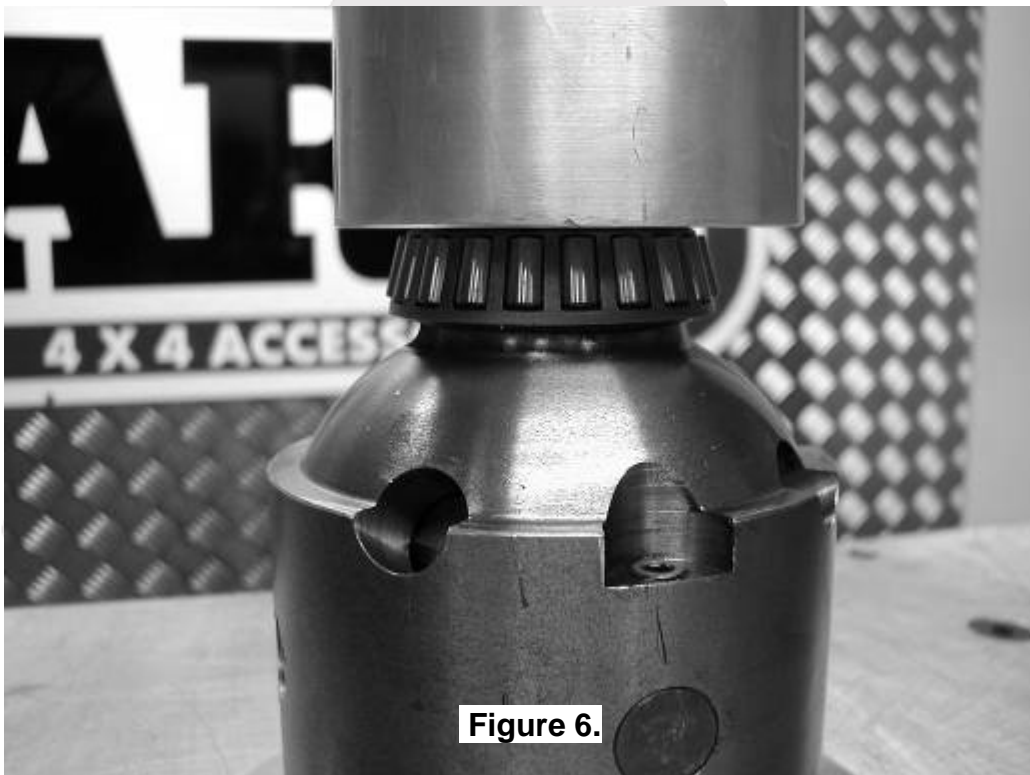

Figure 6.
- ☐ Using a bearing press or arbor press, press one of the bearing cones onto one bearing journal of the *Air Locker* (refer to Figure 6.) until the bearing seats firmly against the bearing journal shoulder.